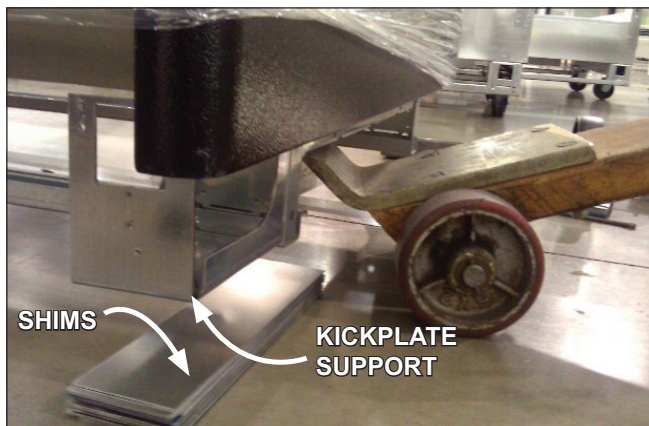

Fig. 1 Kickplate support
4. Locate basehorse positions along the chalk line. Spot properly leveled shim packs at each basehorse location. For narrow cases—ONRB and ONRBH— place shim packs under both the basehorses and kickplate supports (Fig. 1).